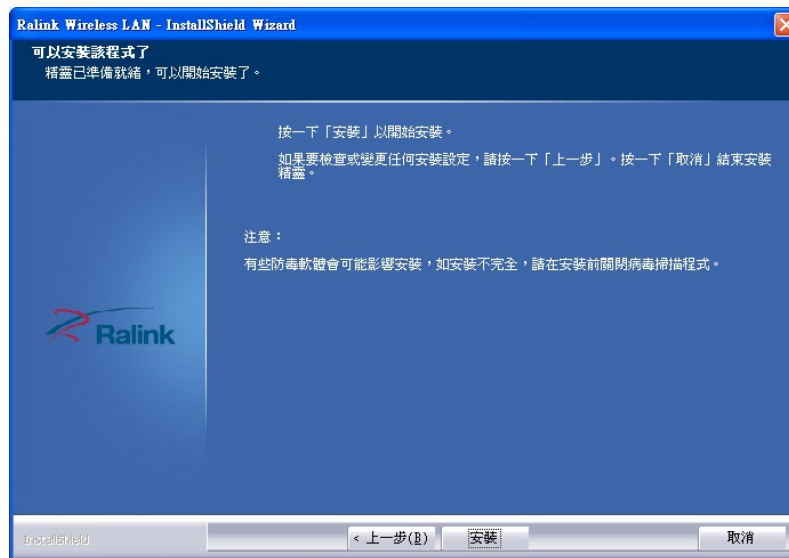

Figure 6-33: Wireless Driver Installation
Step 9: Click **Install** in **Figure 6-33** to start to install the driver.